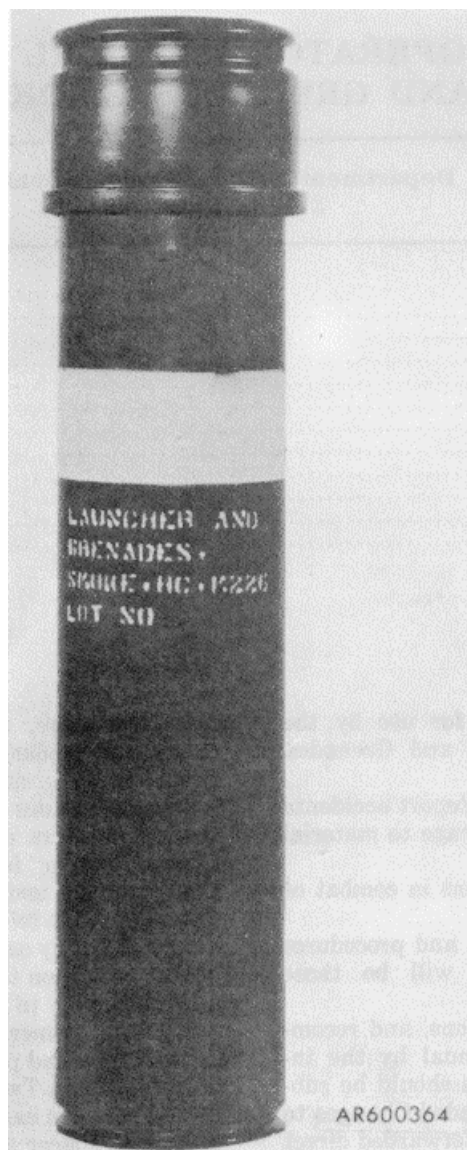

Figure 1. M226 grenade launcher.
3. Description. The M226 grenade launcher (fig. 1) consists of a cylindrical plastic tube which houses one